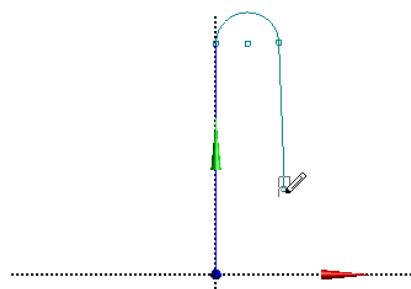

Figure 3-63 Specifying the endpoint of the line
19. Specify the end point for line 2, as shown in Figure 3-63.